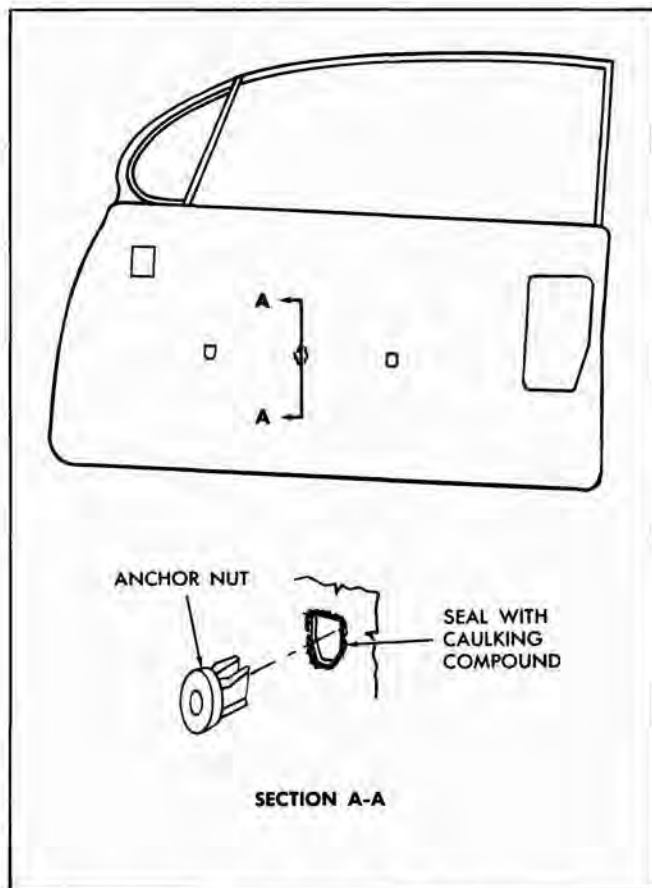

Fig. 13-2 Arm Rest Anchor Nut
All arm rests are the applied type and are secured to the door inner panel by two (2) attaching screws which fit into self-threading plastic anchor nuts which snap into the door inner panel. The anchor nuts are sealed to the door inner panel with body caulking compound and are replaceable as a service part (Fig. 13-2).